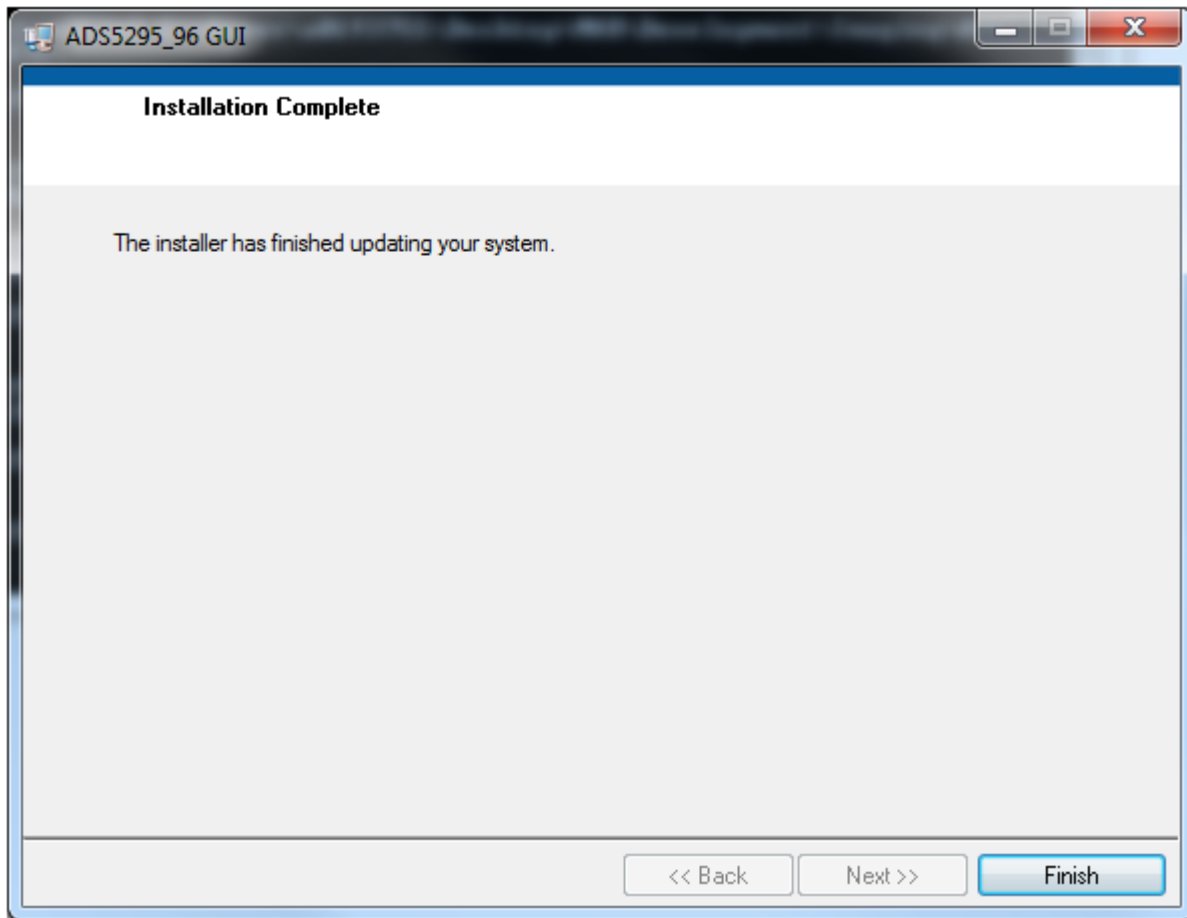

Figure 17. ADS5296 GUI Install (g)
- Upon complete of installation, the window in Figure 17 appears. Press the *Finish* button to continue.